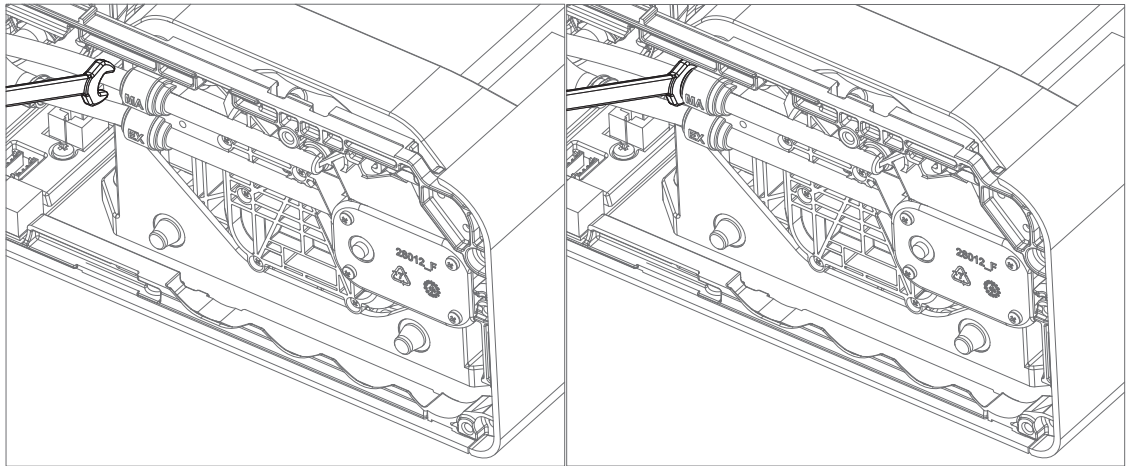

Figure 7-11: Remove pipes
- To disconnect the pipes press on the black release button with either a screwdriver or spanner, as shown, while simultaneously pulling out the tube (Figure 7-11).